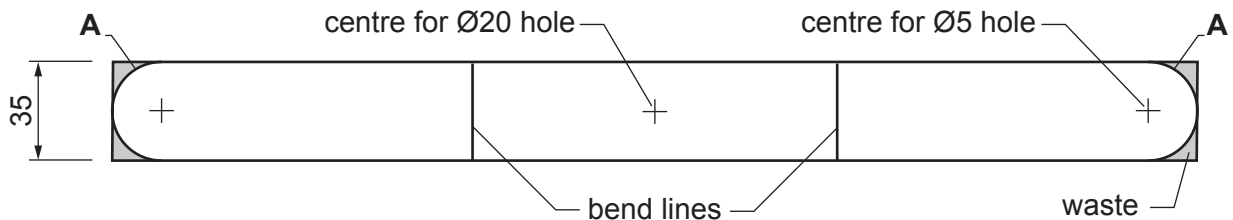

Fig. 13.2
(a) Fig. 13.2 shows the development (net) of the bracket.
- (ii) Name a suitable marking out tool that could be used to mark the arcs shown at **A** in Fig. 13.2.